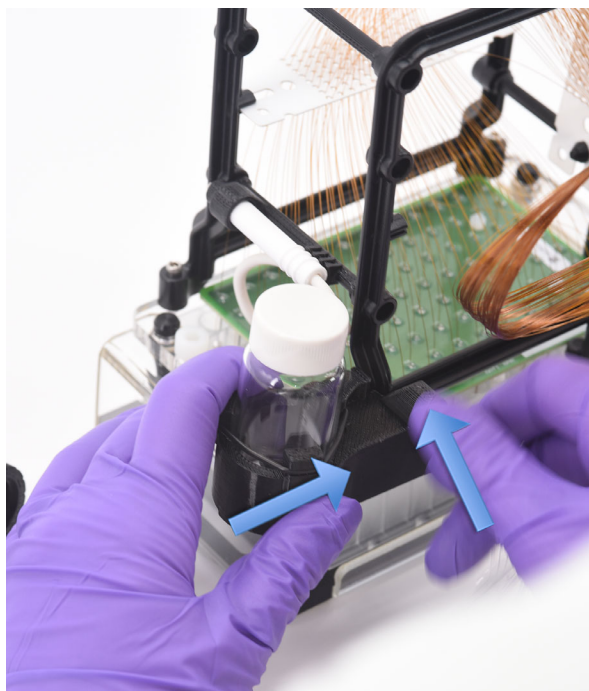

Figure 114 Array spindle storage device installation
- 7 Slide the array spindle storage device onto the capillary array side arm, located to the left of the capillary array window, and screw the locking screw into place as shown in **Figure 114**.